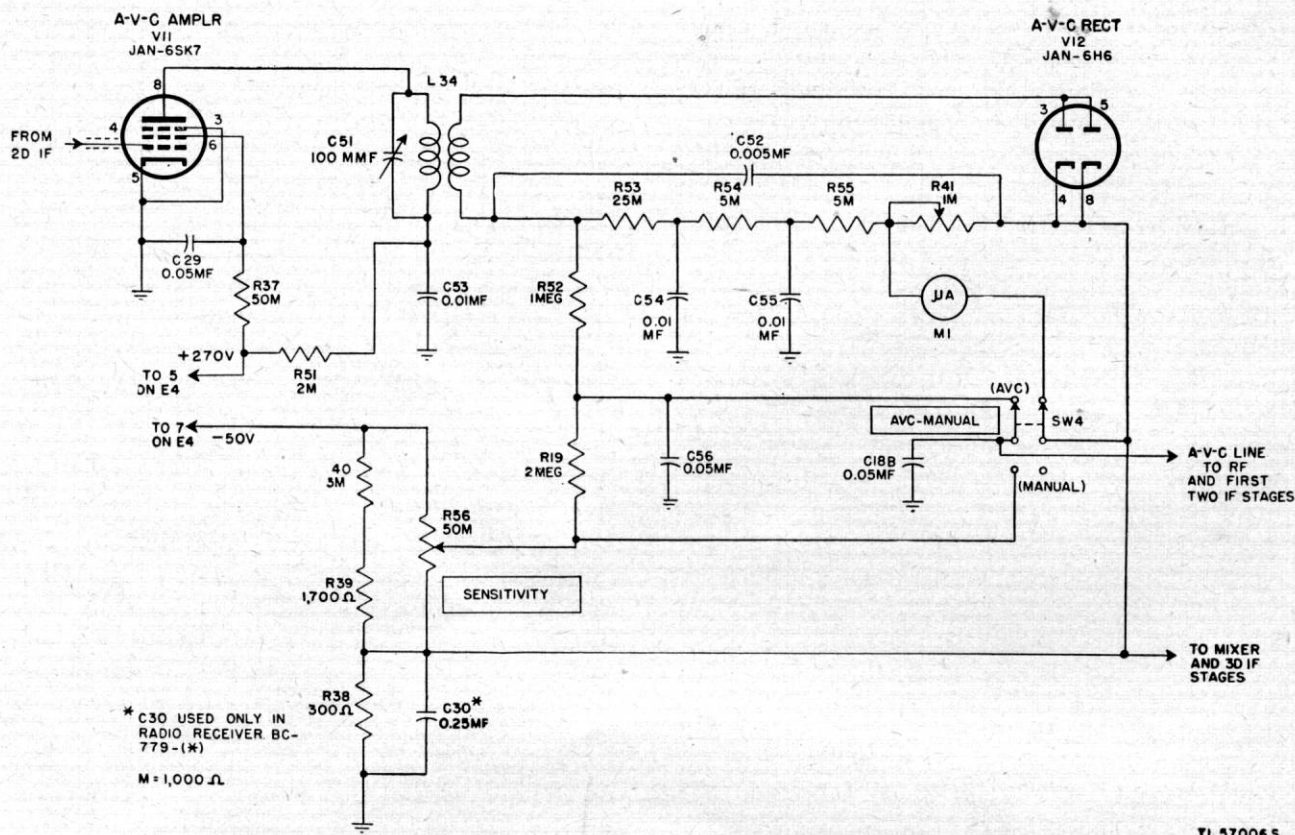

Figure 31. Radio Receiver BC-779-B, functional diagram of a-v-c stages.
a. *MIXER TUBE JAN-6L7.* For simplicity, capacitor C71, main tuning ganged capacitor C1C, and band spread ganged capacitor C2C are represented as a single variable capacitor C across the inductance trimmed secondary of r-f transformer L18. Signal voltages across C are applied through 600-mmf capacitor C11 to signal grid G1 (top cap) of pentagrid mixer Tube JAN-6L7. Fixed bias from the voltage divider (fig. 31) is applied through a filter circuit (10,000-ohm resistor R10 and 0.01-mf capacitor C12) and 500,000-ohm grid resistor R9 to the signal grid. Screen grid G2 and G4 (pin 4) forms a screen about injection grid G3 (pin 5), and the h-f oscillator output is coupled through 95-mmf capacitor C13 to the injection grid. Since the screen grid shields the signal and injection grids from one another, the tube electron stream is modulated independently by the r-f and oscillator signals. Heterodyne action produces sum and difference frequencies in the mixer output. The primary of transformer T1 is tuned by C21 to the 465-kc *difference* frequency to which the i-f amplifier is also tuned. The i-f voltage across the secondary winding of transformer T1 is applied to the crystal filter.
65. A-V-C Circuit (fig. 31)
and to the control grid (pin 4) of the a-v-c amplifier stage V11 (fig. 31). V7 and V11 have a common grid circuit, including fixed bias. The suppressor and cathode of V11 are grounded; screen voltage is applied to pin 6 through 50,000-ohm series-dropping resistor R37; and the screen is bypassed by 0.05-mf capacitor C29. Plate (pin 8) voltage is applied through 2,000-ohm filter resistor R51 and the primary of transformer L34. The primary of L34 is tuned to 465 kc by 100-mmF capacitor C51, and capacitor C53 (0.01-mf) bypasses high frequencies to ground. The transformer secondary is untuned.